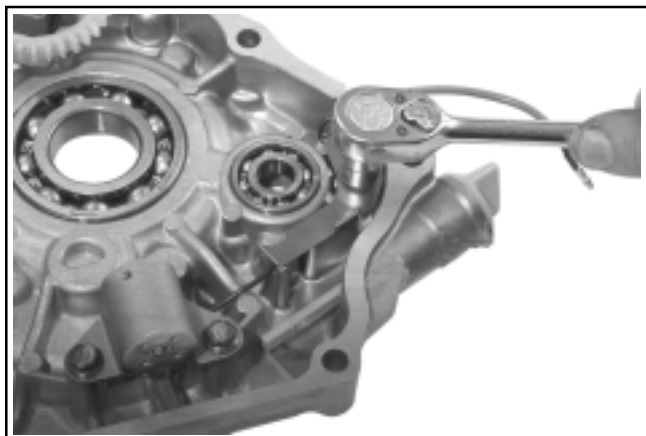

Figure 11-19. Tightening Mounting Screws.
2. Install shield for lead and secure with the M6x1.0 hex. flange screw. **Torque all three screws to 10 N-m (88.5 in. lb.).** See Figure 11-19.